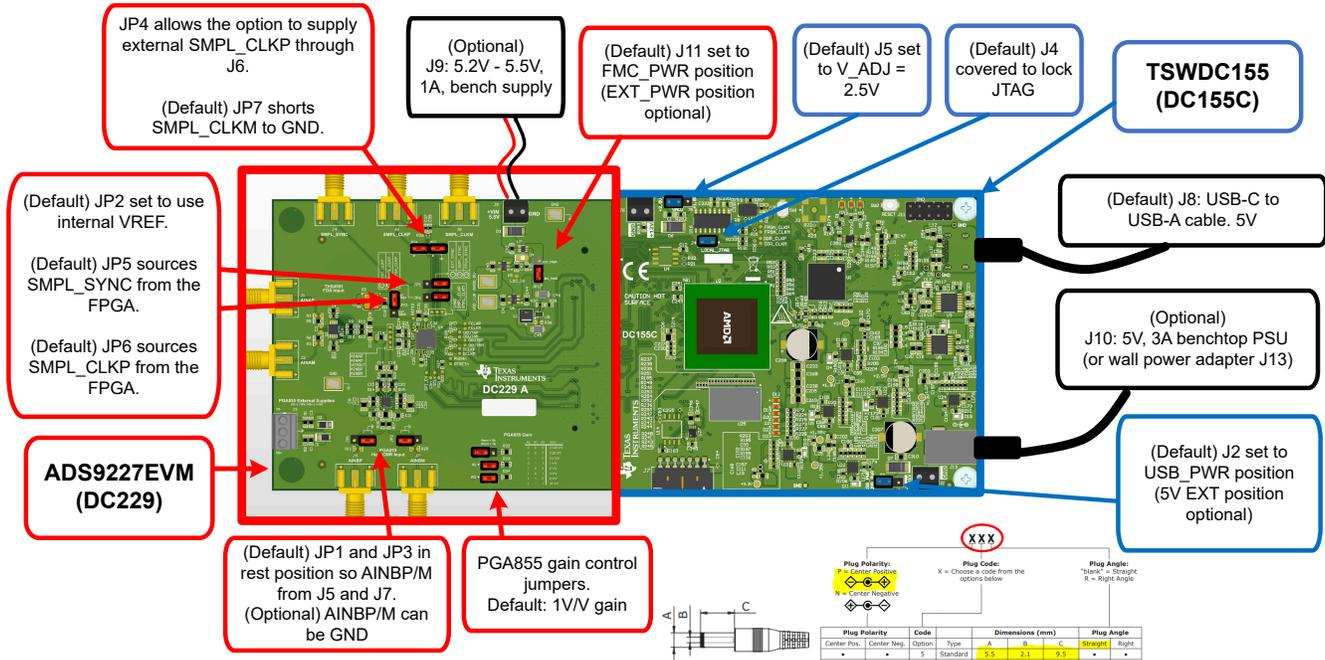

Figure 2-8. Connecting the Hardware
1. Review the default jumper settings in Figure 2-8 below as well as the power guidelines in Section 2.2.1.